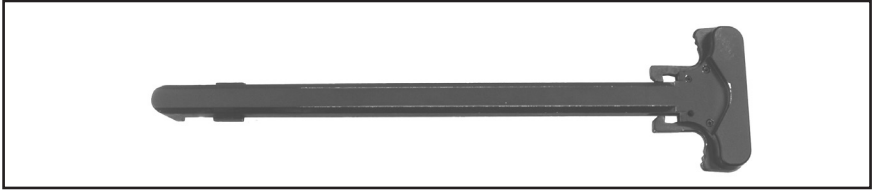

Fig. 85 – Lubrication of MR762A1 Charging Handle
5. Apply a medium coat of lubricant to the interior and exterior surfaces of the charging handle (Fig. 85).